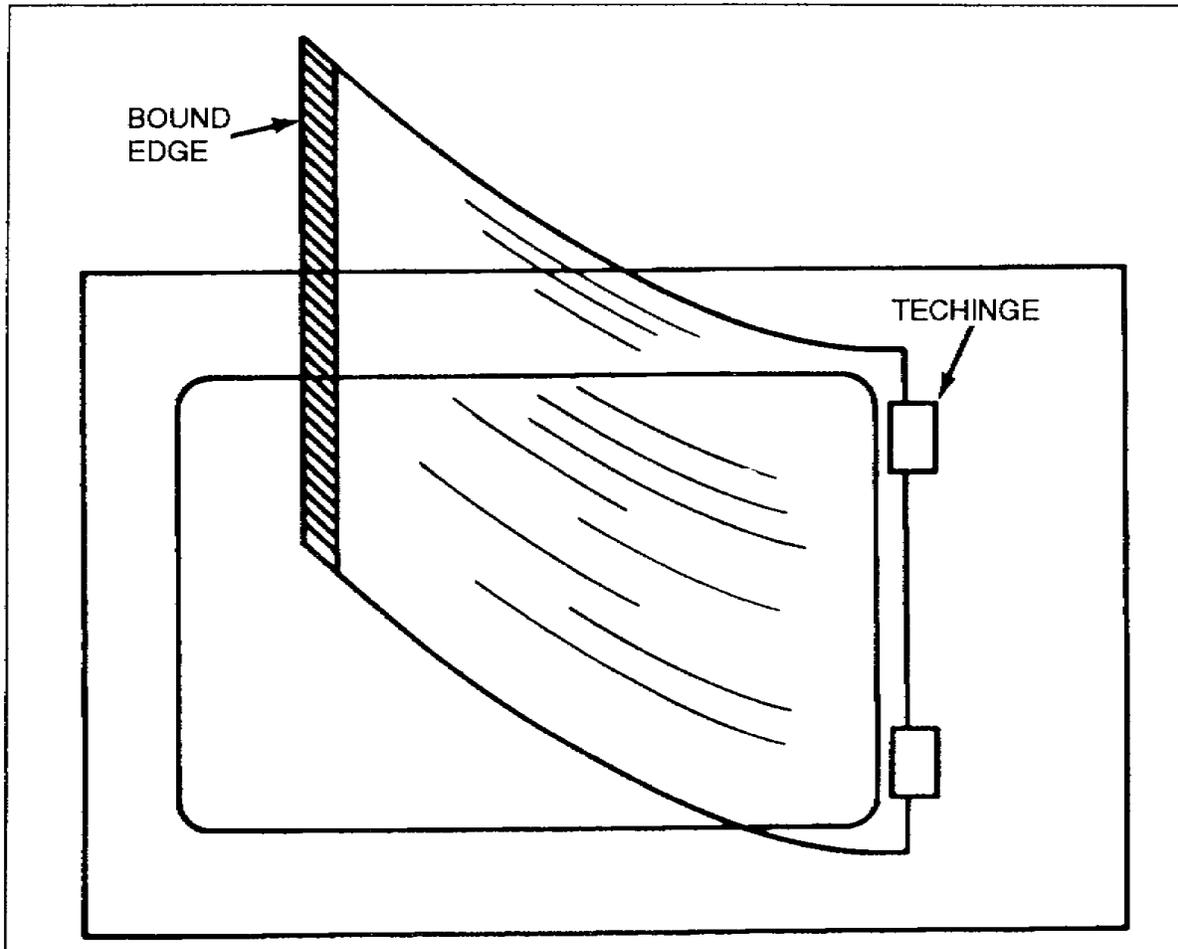

Figure 2-10. Hinging flips over a VGT
(1) You fasten each flip with tape or plastic hinges along the side of the frame. If you present the flips in a specific order, place them over the base foil, in sequence, and attach to one side of the mount.
(2) If you want more flexibility in the presentation sequence, hinge your flips on both sides, alternating sides for each flip. If necessary, you also may use the bottom and top edges of the mount to hinge the flips. Figure 2-10 illustrates hinging of a flip onto a VGT.